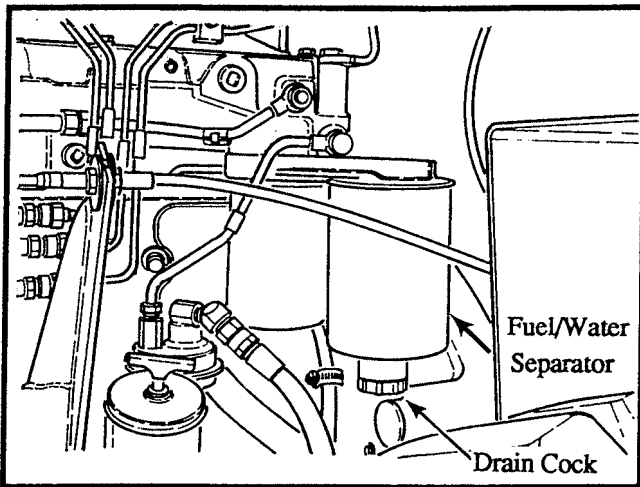

Figure 8-8. Fuel/Water Separator
The fuel/water separator located on the Cummins engine has a drain cock at the bottom. To clean and drain residue from the filter, open the drain cock and drain about one (1) cup of fuel and any water or sediment. Once this is completed, close the drain cock. Refer to Figure 8-8.